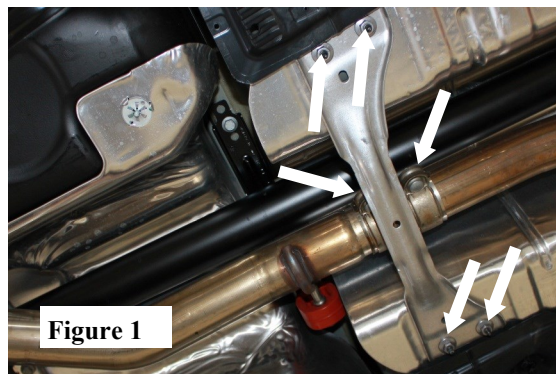

Figure 1
1. Remove (4) bolts and Cross-Brace. Keep all hardware for reinstallation. Loosen (2) 13mm bolts on band clamp and slide clamp towards front of vehicle. (See Fig. 1)